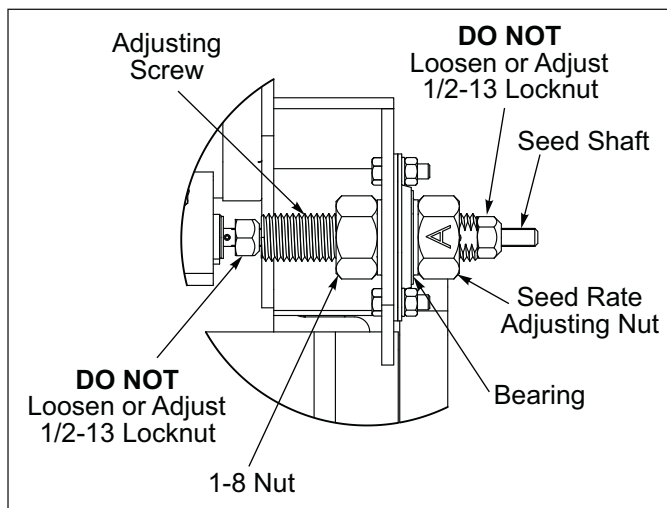

Figure 5-6: Seed Box Seed Rate Adjustment
All Seed Meters must be set the same to ensure uniform seeding. To check, set the Seed Rate Adjusting Nut to 0-A. The "A" on the Seed Rate Adjusting Nut is positioned over the "0" (the nut covers half of the "0") and snug against the Bearing. **See Figure 5-6.**
1. 1/2-13 Locknuts on both ends of the Adjusting Screw are used to adjust all Seed Meters the same amount. **See Figure 5-6.** To adjust Seed Meters to be closed at "0A", loosen 1/2-13 Locknuts and set Adjusting Screw to "0A". Slide Seed Shaft to close all Seed Meters. Tighten 1/2-13 Locknuts against Adjusting Screw.